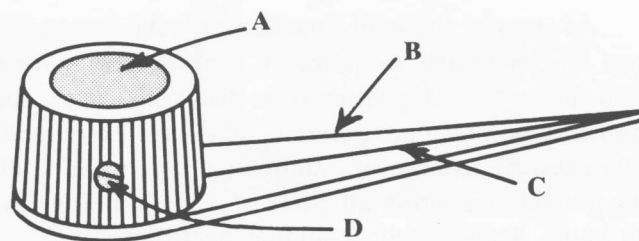

Fig. 11
10) The knobs (A in Fig. 11) and pointers (B) are now prepared. Examine a pointer and note that there is a groove (C) along the center. Place the pointer on a flat piece of cardboard or scrap wood with the groove on the upper side (A in Fig.